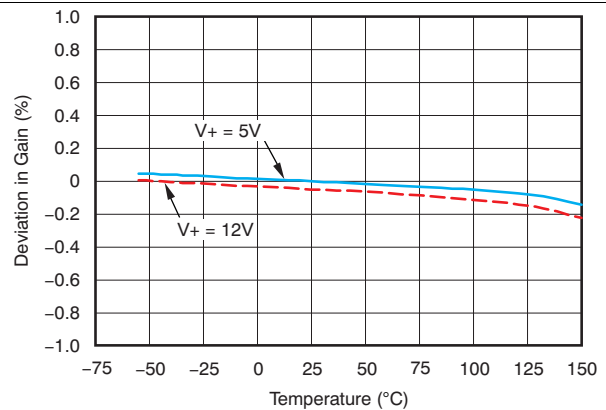

Figure 12. Deviation in Gain vs Temperature
(5) See typical characteristic graph Figure 12.